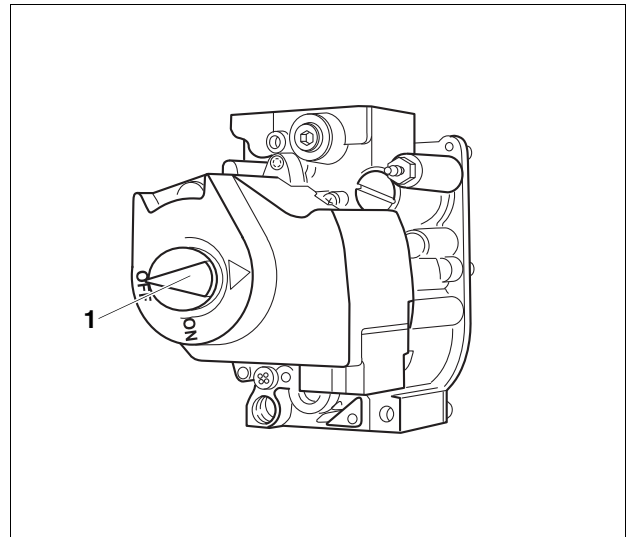

Fig. 12 Gas valve
24. If the gas valve operates correctly, proceed to step 25. If the gas valve does not operate correctly, switch ON/OFF switch (→ Fig. 12) on the gas valve clockwise to the OFF position immediately. Close main gas valve. Disconnect heating system from the power supply and inform the customer service technician or gas company.